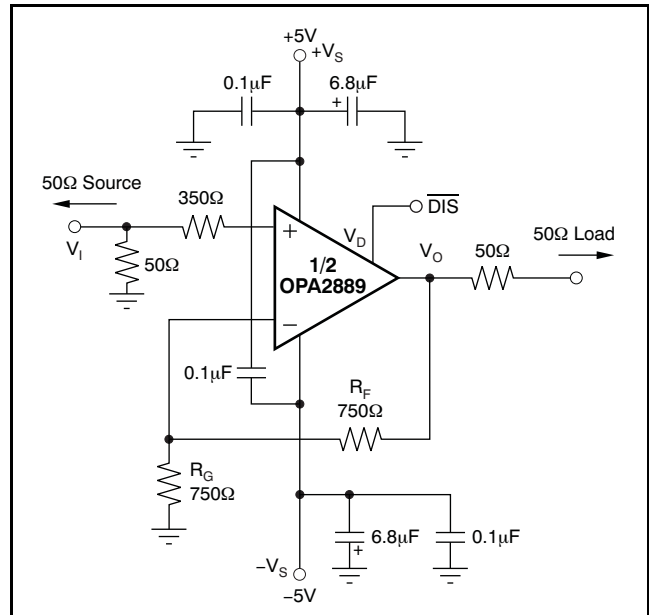
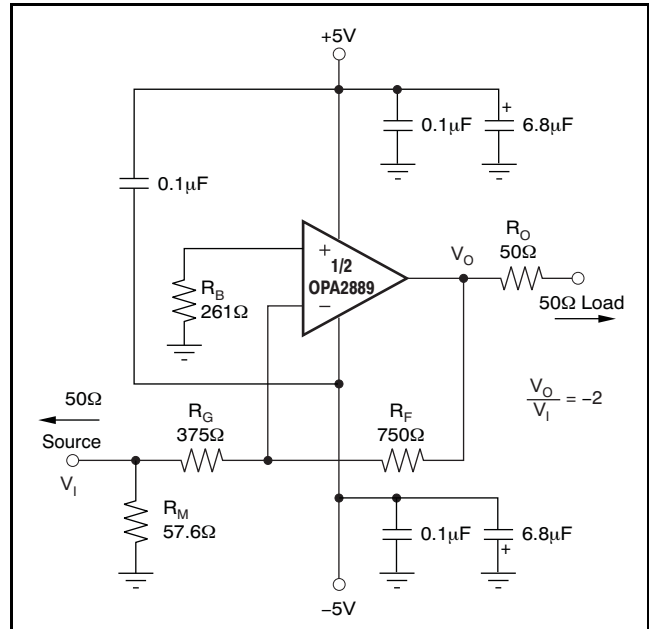

Figure 50. DC-Coupled, G = +2, Bipolar Supply, Specification and Test Circuit
Figure 60. Gain of $-2V/V$ Example Circuit
At $T_A = +25^\circ C$, $G = +2V/V$, $R_F = 750\Omega$, and $R_L = 100\Omega$, unless otherwise noted. See Figure 50.
Figure 50 shows the dc-coupled, gain of +2V/V, dual power-supply circuit configuration used as the basis of the ±5V Electrical Characteristics and ±5V Typical Characteristics. This illustration is for one channel; the other channel is connected similarly. For test purposes, the input impedance is set to 50Ω with a resistor to ground and the output impedance is set to 100Ω. Voltage swings reported in the Electrical Characteristics are taken directly at the input and output pins, while output powers (dBm) are at the matched 50Ω load. For the circuit of Figure 50, the total effective load will be 100Ω || 1.5kΩ. The disable control line (MSOP-10 package only) is typically left open for normal amplifier operation. Two optional components are included in Figure 50. An additional resistor (350Ω) is included in series with the noninverting input. Combined with the 25Ω dc source resistance looking back towards the signal generator, this resistor gives an input bias current cancelling resistance that matches the 375Ω source resistance seen at the inverting input (see the DC Accuracy and Offset Control section). In addition to the usual power-supply decoupling capacitors to ground, a 0.1μF capacitor is included between the two power-supply pins. In practical printed circuit board (PCB) layouts, this optional-added capacitor typically improves the 2nd-harmonic distortion performance by 3dB to 6dB.
A good rule of thumb is to target the parallel combination of R_F and R_G (see Figure 50) to be less than approximately 400 Ω . The combined impedance $R_F \parallel R_G$ interacts with the inverting input capacitance, placing an additional pole in the feedback network and thus, a zero in the forward response. Assuming a 2pF total parasitic on the inverting node, holding $R_F \parallel R_G < 400\Omega$ keeps this pole above 160MHz. By itself, this constraint implies that the feedback resistor R_F can increase to several k Ω at high gains. This increase in resistor size is acceptable as long as the pole formed by R_F and any parasitic capacitance appearing in parallel is kept out of the frequency range of interest.
Voltage-feedback op amps exhibit decreasing closed-loop bandwidth as the signal gain increases. In theory, this relationship is described by the Gain Bandwidth Product (GBP) shown in the Electrical Characteristics. Ideally, dividing GBP by the noninverting signal gain (also called the Noise Gain, or NG) predicts the closed-loop bandwidth. In practice, this principle only holds true when the phase margin approaches 90°, as it does in high gain configurations. At low gains (increased feedback factors), most amplifiers exhibit a more complex response with lower phase margin. The OPA2889 is compensated to give a slightly peaked response in a noninverting gain of 2V/V (see Figure 50). This compensation results in a typical gain of +2V/V bandwidth of 60MHz, far exceeding that predicted by dividing the 75MHz GBP by 2. Increasing the gain causes the phase margin to approach 90° and the bandwidth to more closely approach the predicted value of (GBP/NG). At a gain of +10, the 8MHz bandwidth shown in the Electrical Characteristics agrees closely with that predicted using the simple formula and the typical GBP of 75MHz.
The frequency response in a gain of +2V/V may be modified to achieve exceptional flatness simply by increasing the noise gain to 2.5V/V. One way to modify the response without affecting the +2V/V signal gain, is to add a 750 Ω resistor across the two inputs, as shown in the circuit of Figure 50. A similar technique may be used to reduce peaking in unity-gain (voltage follower) applications. For example, by using a 750 Ω feedback resistor along
The OPA2889 is a general-purpose, wideband, voltage-feedback op amp; therefore, all of the familiar op amp application circuits are available to the designer. Inverting operation is one of the more common requirements and offers several performance benefits. See Figure 60 for a typical inverting configuration where the I/O impedances and signal gain from Figure 50 are retained in an inverting circuit configuration.
In the inverting configuration, three key design considerations must be noted. The first is that the gain resistor (R_G) becomes part of the signal channel input impedance. If input impedance matching is desired (which is beneficial whenever the signal is coupled through a cable, twisted-pair, long PCB trace, or other transmission line conductor), R_G may be set equal to the required termination value and R_F adjusted to give the desired gain. This consideration is the simplest approach and results in optimum bandwidth and noise performance. However, at low inverting gains, the resultant feedback resistor value can present a significant load to the amplifier output. For an inverting gain of $-2V/V$, setting R_G to 50Ω for input matching eliminates the need for R_M but requires a 100Ω feedback resistor. This approach has the interesting advantage that the noise gain becomes equal to $2V/V$ for a 50Ω source impedance—the same as the noninverting circuits considered in Figure 60. The amplifier output, however, now sees the 100Ω feedback resistor in parallel with the external load. In general, the feedback resistor should be limited to the 200Ω to $1.5k\Omega$ range. In this case, it is preferable to increase both the R_F and R_G values (see Figure 60), and then achieve the input matching impedance with a third resistor (R_M) to ground. The total input impedance becomes the parallel combination of R_G and R_M .
The second major consideration, touched on in the previous paragraph, is that the signal source impedance becomes part of the noise gain equation and influences the bandwidth. For the example in Figure 60, the R_M value combined in parallel with the external 50Ω source impedance yields an effective source driving impedance of $50\Omega \parallel 57.6\Omega = 26.7\Omega$. This impedance is added in series with R_G for calculating the noise gain (NG). The resulting NG is $2.86V/V$ for Figure 60, as opposed to only $2V/V$ if R_M could be eliminated as discussed above. Therefore, the bandwidth is slightly lower for the gain of $-2V/V$ circuit of Figure 60 than for the gain of $+2V/V$ circuit of Figure 50.
The third important consideration in inverting amplifier design is setting the bias current cancellation resistor on the noninverting input (R_B). If this resistor is set equal to the total dc resistance looking out of the inverting node, the output dc error, as a result of the input bias currents, is reduced to $(\text{Input Offset Current}) \times R_F$. If the 50Ω source impedance is dc-coupled in Figure 60, the total resistance to ground on the inverting input is 402Ω .
The OPA2889 provides good distortion performance into a 200Ω load on $\pm 5V$ supplies. Relative to alternative solutions, it provides exceptional performance into lighter loads and/or operating on a single +5V supply. Generally, until the fundamental signal reaches very high frequency or power levels, the 2nd-harmonic dominates the distortion with a negligible 3rd-harmonic component. Focusing then on the 2nd-harmonic, increasing the load impedance improves distortion directly. Remember that the total load includes the feedback network; in the noninverting configuration (see Figure 50), this total is the sum of $R_F + R_G$, while in the inverting configuration it is just R_F . Also, providing an additional supply-decoupling capacitor ($0.1\mu F$) between the supply pins (for bipolar operation) improves the 2nd-order distortion slightly (3dB to 6dB). Operating differentially also lowers 2nd-harmonic distortion terms (see the plot on the front page).
Evaluating these two equations for the OPA2889 circuit and component values (see Figure 50) gives a total output spot noise voltage of 18.2nV/√Hz and a total equivalent input spot noise voltage of 9.1nV/√Hz. This total includes the noise added by the bias current cancellation resistor (350Ω) on the noninverting input. This total input-referred spot noise voltage is slightly higher than the 8nV/√Hz specification for the op amp voltage noise alone. This result is the case as long as the impedances appearing at each op amp input are limited to the
previously recommend maximum value of 400Ω. Keeping both ($R_F \parallel R_G$) and the noninverting input source impedance less than 400Ω satisfies both noise and frequency response flatness considerations. Because the resistor-induced noise is relatively negligible, additional capacitive decoupling across the bias current cancellation resistor (R_B) for the inverting op amp configuration of Figure 60 is not required.
The balanced input stage of a wideband voltage-feedback op amp allows good output dc accuracy in a wide variety of applications. The power-supply current trim for the OPA2889 gives even tighter control than comparable amplifiers. Although the high-speed input stage does require relatively low $\pm 0.75\mu\text{A}$ input bias current, the close matching between them may be used to reduce the output dc error caused by this current. The total output offset voltage may be reduced by matching the dc source resistances appearing at the two inputs. This matching reduces the output dc error resulting from the input bias currents to the offset current times the feedback resistor. Evaluating the configuration of Figure 50, and using worst-case +25°C input offset voltage and current specifications, gives a worst-case output offset voltage equal to: